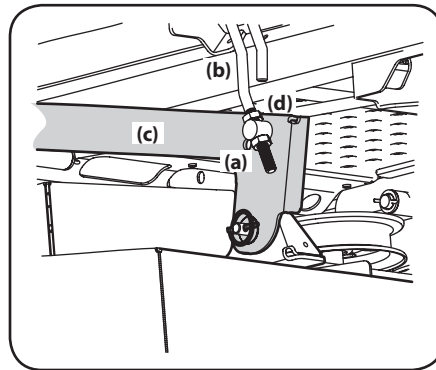

Figure 4-7
3. Loosen the lower nut (a) on the adjustable lift link (b) attached to the deck lift arm (c) to lower the deck and tighten the upper nut (d) to secure the deck in place, loosen the upper nut (d) then tighten the lower nut (a) to secure the deck in place. See Figure 4-7.